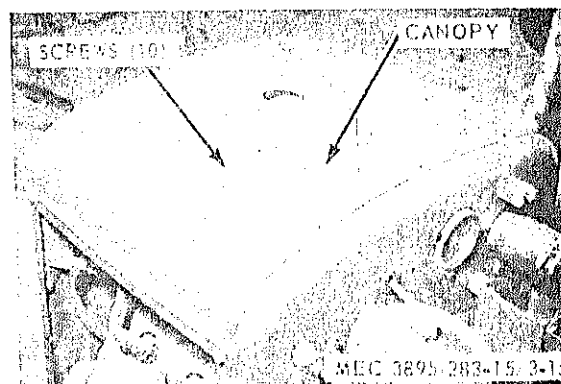

Figure 3-15. Canopy Removal.
- (2) Remove engine canopy as illustrated in figure 3-15 and paragraph 3-36.
- (3) Remove exhaust nipple as illustrated in figure 3-15.
(b) Remove the ten (10) screws holding the canopy in place, figure 3-15.